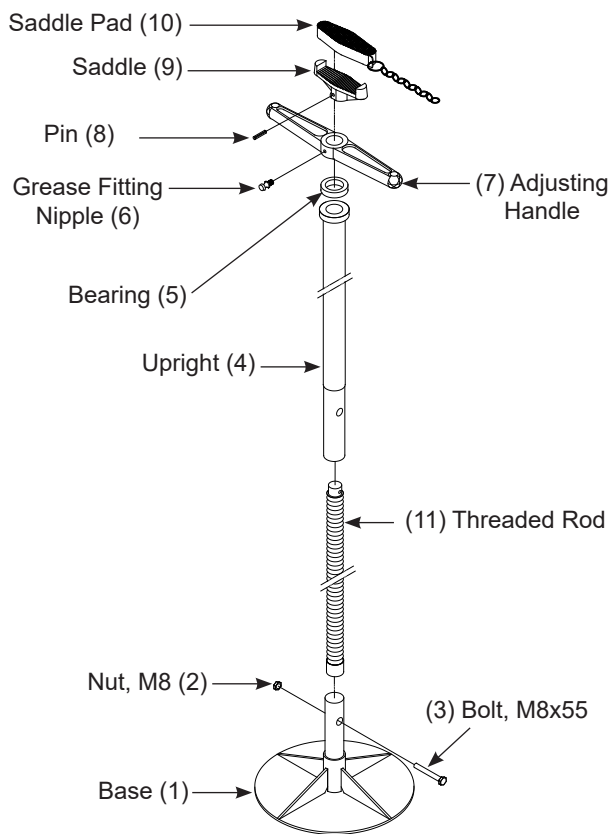

Figure 1 - BH5710 Nomenclature
1. Make sure all parts are present (see Fig. 1 & 2). If any parts is missing or damage, do not attempt to assemble, install or operate the product. Contact Customer service.
2. Begin assembly by inserting smaller end of threaded rod (11) through the bottom of upright (4), allowing small end of threaded rod to project out of the top of upright.
3. Place bearing (5) over the threaded portion, then spin the adjusting handle (7) clockwise onto the threaded rod.
4. Saddle (9) can now be fastened by inserting the pin (8) through saddle & threaded rod (11).
5. a. For Model BH5710 (see Fig. 1):
Parts List: *(see Fig. 1 & 2 for reference number.)*